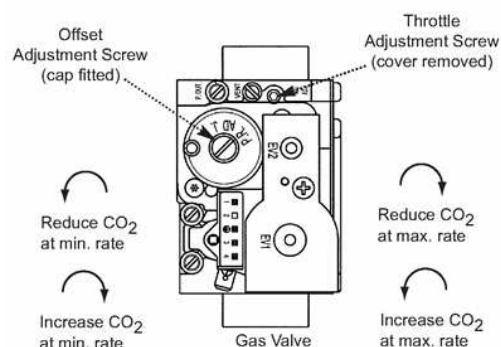

Fig. 64
4. Check the CO2 is 9.3% ±0.1%. If the CO2 is incorrect alter the Throttle Adjustment Screw (Fig. 64). Turn the screw anticlockwise to increase the CO2 or clockwise to decrease (2.5mm hexagon key).
- Check the CO2 is 8.9% ±0.1%. If the CO2 is incorrect alter the Offset Adjustment Screw (Fig. 64). Turn the screw clockwise to increase the CO2 or anticlockwise to decrease (4mm hexagon key).